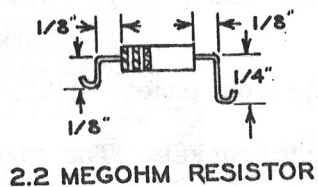
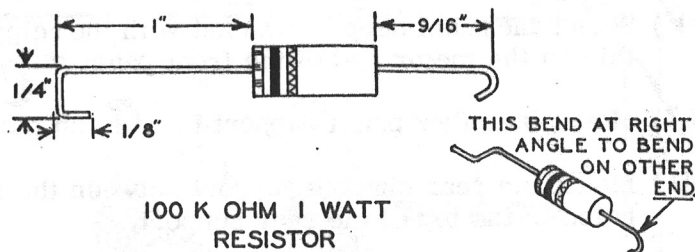

Figure 14
Figure 15
- (✓) Connect the free lead of the other NE-2H to terminal strips TA through TI, lug 1 (NS).
- (✓) Prepare nine 2.2 megohm (red-red-green) 1/2 watt resistors as shown in Figure 14.
- (✓) Connect one of these 2.2 megohm resistors, just prepared, from socket AI, pin 8 (S-2) to terminal strip TI, lug 3 (NS).
- (✓) In the same manner, connect the remaining eight 2.2 megohm resistors to sockets AH through AA (S-2) and the corresponding terminal strips TH through TA (NS).
- (✓) Connect one of these wires between socket AI, pin 7 (S-2) and terminal strip TI, lug 3 (NS).
- (✓) Prepare eight 100 KΩ (brown-black-yellow) 1 watt resistors as shown in Figure 15.
- (✓) Connect these eight resistors between terminal strips TA through TH, lug 1 (NS) and the bus wire running through terminal strips LQ, LR and LS, lug 4 (S-1).
- (✓) Connect a 100 KΩ, 1 watt resistor between terminal strip T1, lug 1 (NS) and terminal strip LQ, lug 4 (S-2).